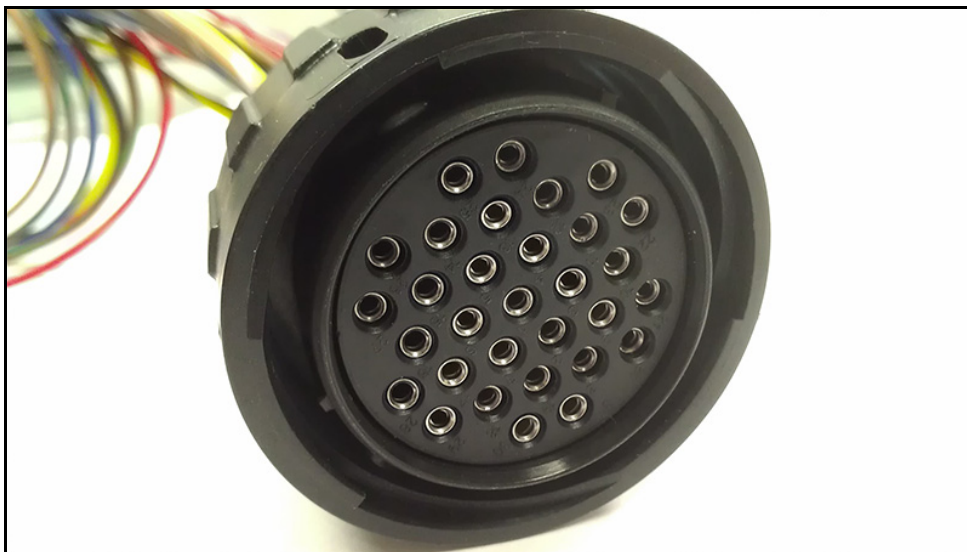

Figure 7D
- Connector pins within 2-3 mm of plug face are seated correctly (see Figure 7D) for examples of different pin depths.